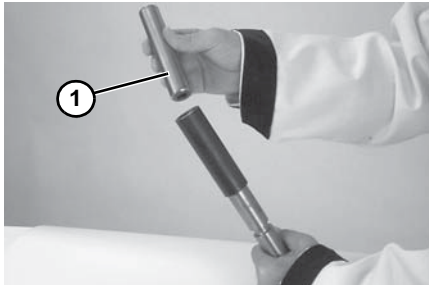

Figure 17
- Place open end of pusher (**Figure 17, item 1**) into sleeve.